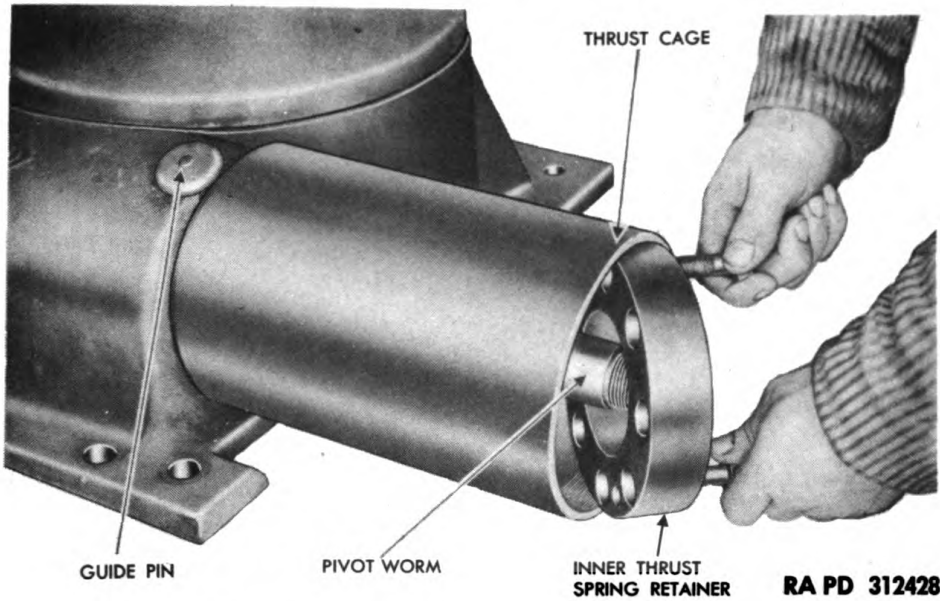

Figure 33 – Removing Inner Thrust Spring Retainer
c. Remove Thrust Cage. The outer spring thrust retainer has two tapped holes for ½-inch-20 cap screws (fig. 41). Screw in two cap screws and use as handles for pulling out retainer. This will remove the outer thrust ball bearing. Lift out thrust spring and thrust spring stop (fig. 32). Again using two ½-inch-20 cap screws, lift out the inner spring thrust retainer (fig. 33). Using a 10-inch extension and socket, remove eight 7/16-inch cap screws and lock washers attaching the thrust cage to the boom pivot base. Lift off spring cage.
f. **Install Thrust Cage and Spring.** Use a new gasket between the boom pivot and boom pivot thrust cage. Install cage and eight $\frac{7}{16}$ -inch spring cage cap screws and lock washers, and tighten securely. Install two $\frac{1}{2}$ -inch-20 cap screws on the smooth side of the inner thrust spring retainer to use as handles for installing the retainer (fig. 33). The counterbored side of the retainer enters the thrust cage first (fig. 33). Set the inner thrust spring retainer on its locating dowel. Slide the thrust spring stop onto the worm, and install the thrust spring. Set the outer thrust spring retainer into position with the smooth side of the retainer toward the spring, and the relieved side toward the driven end of the worm (fig. 41). Install the outer thrust bearing and slide it onto the shaft, aligning the keyway in the bearing with the locating dowel on the worm (fig. 41).